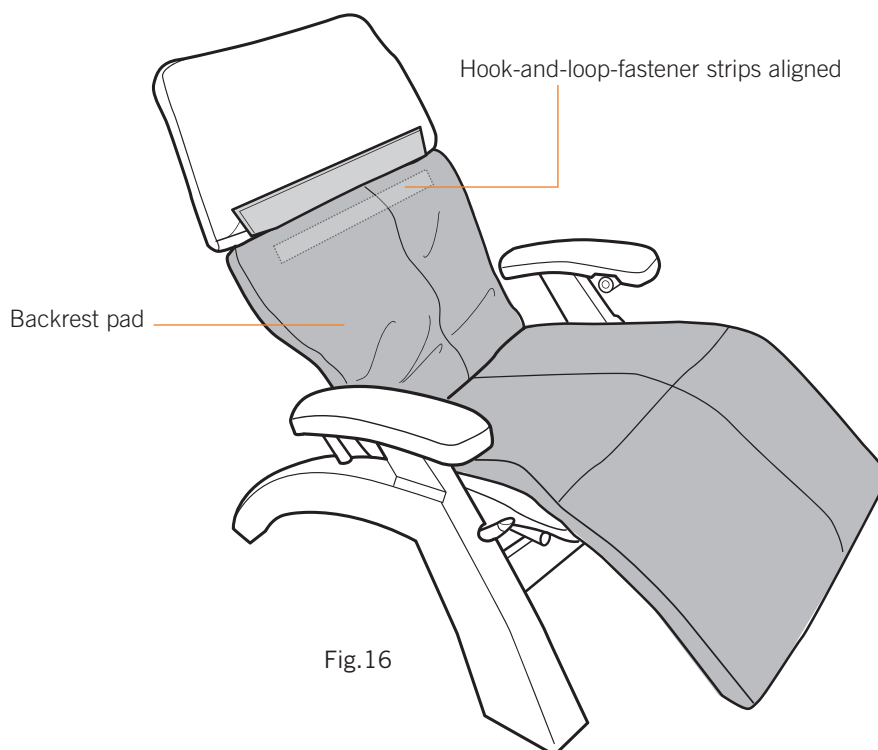

Fig.16
6. Pull up on the backrest pad until the hook-and-loop fastener strip on the back of the pad aligns with the hook-and-loop fastener strip on the chair canvas, then press the two strips firmly together (Fig.16).